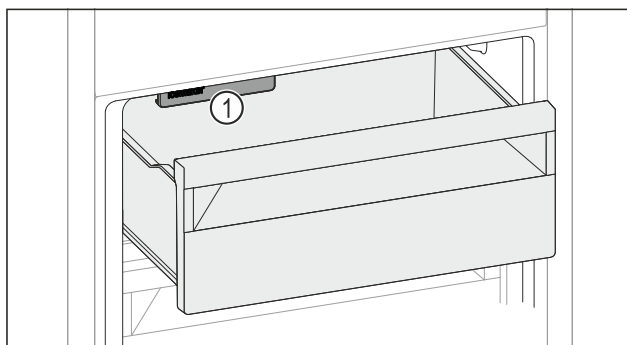

Fig. 155
- ▶ Observera IceMaker Fig. 155 (1).